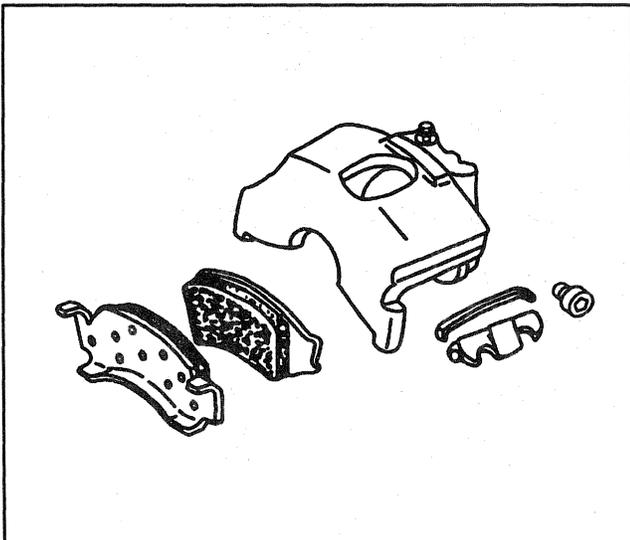

Figure 15—Bendix® Shoe and Lining Assembly
Install or Connect (Figures 15 through 20)
↔ Remove or Disconnect (Figures 15 and 19)
**Install or Connect (Figures 15, 21 through 24)**